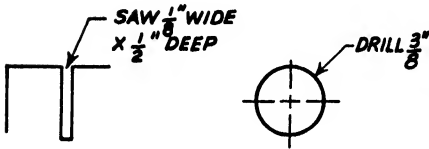

Fig. 2-11. Brief notes with leaders are often used in dimensioning drawings.
14. Brief notes may be used, with light leader lines and arrowheads leading to the parts of the drawing to which the notes apply (see Fig. 2-11).